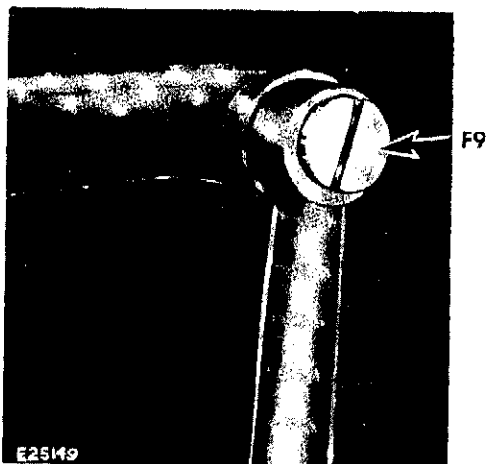

Fig. 158. Releasing Fork at Crank
3. Remove hinge screw **F9**, **Fig. 158** from crank.
2. Set right end of fork into position at crank and tighten hinge screw **F9**, **Fig. 158**.